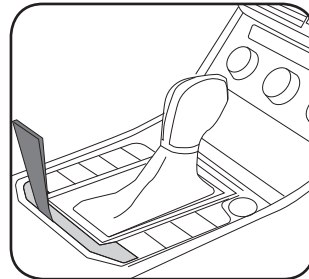

Fig. 1.12
- Using a small panel tool, remove the trim panel located at the base of the shifter. (Fig. 1.12)